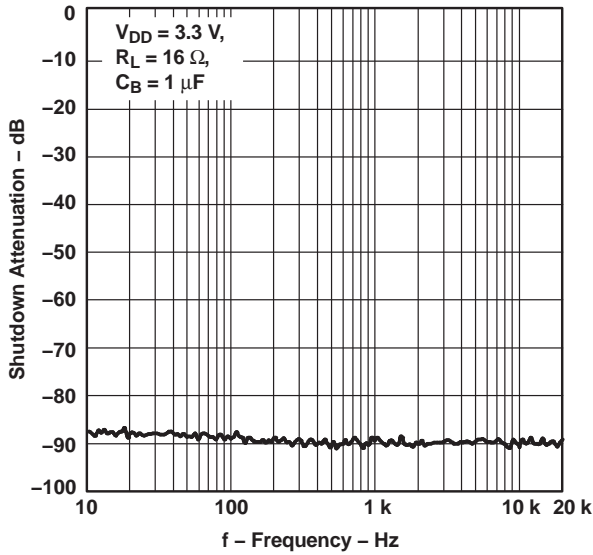

Figure 25.
- Changed Figure 25, From: frequency limit at 1M To: frequency limit at 20K **11**